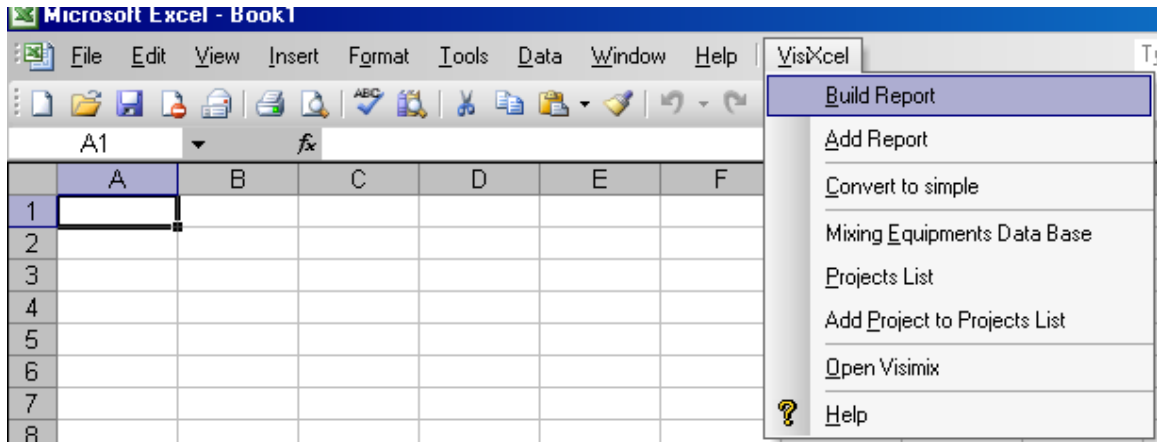
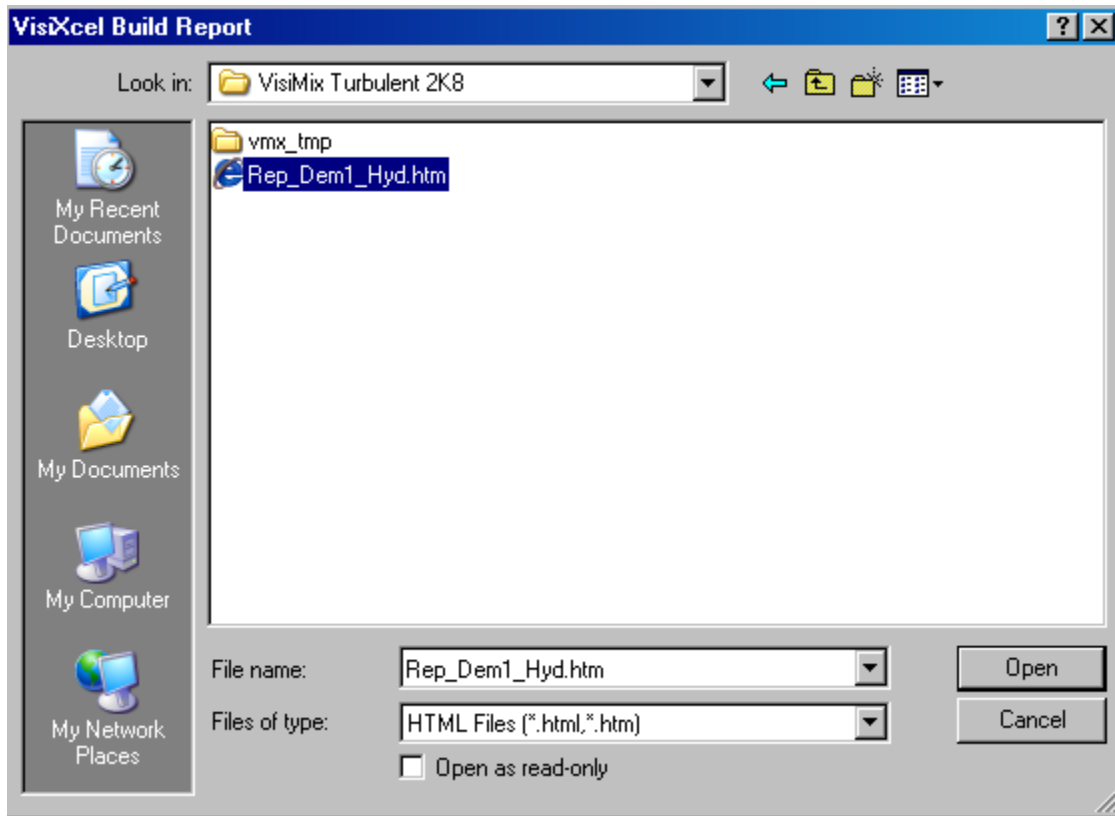

Figure 1.4.
Figure 1.5.
- 1.2. Open **Excel**. Select **VisiXcel** in the main menu and press **Build Report** (Figure 1.4). Find and open the previously created report Rep\_Dem1\_Hyd.htm (Figures 1.5, 1.6).